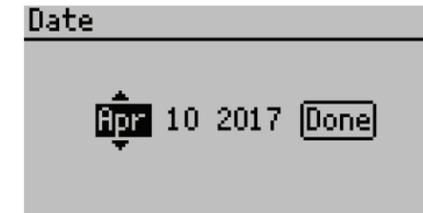

Figure 23 Editing Date option
- **Date.** Edit this screen to change the date saved in the control unit (Figure 23). Select the Date option in the Configuration tab. Use UP and DOWN to change the current value and hold the buttons down to scroll quickly. Press RIGHT to move to the next value or press LEFT to return to the previous value. Select Done to save changes or press BACK to cancel without saving changes.